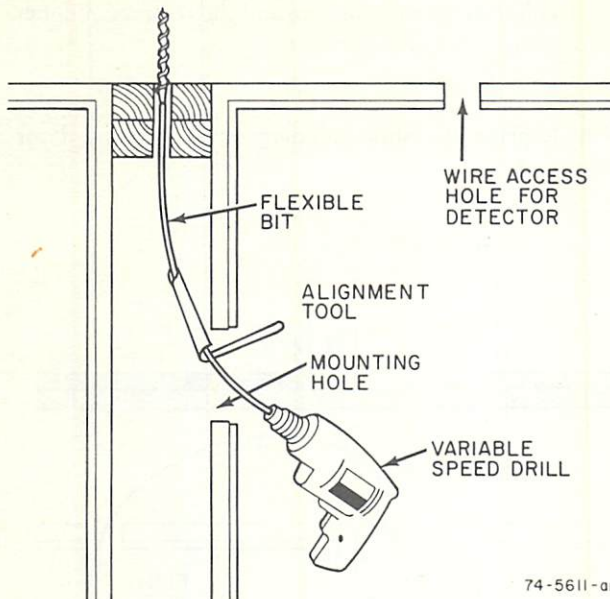
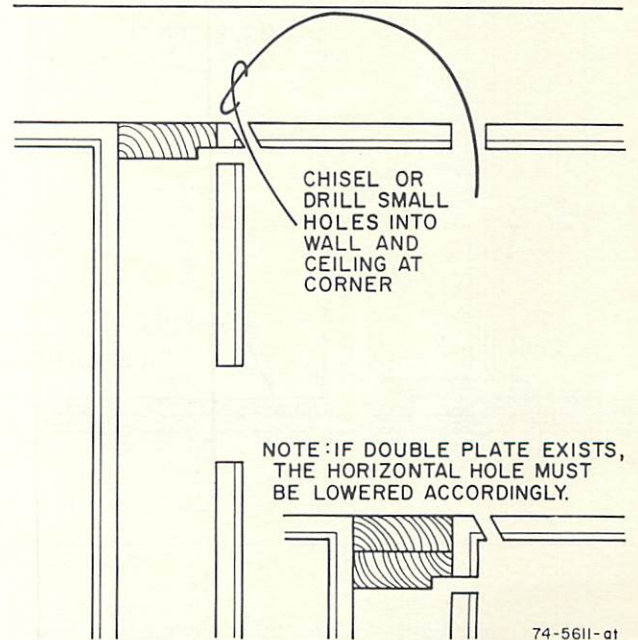

Fig. 44—Gaining Access to Attic From Below—Using Flexible Bit.
Fig. 46—Alternate Method for Wiring Ceiling Mounted Device.
2. Direct the flexible bit straight up from the mounting hole in the wall and drill through the double plate (Fig. 44).
3. Cut small holes into the wall and ceiling spaces (Fig. 46).
4. Use two fish wires as shown in Fig. 46 to pull the signal wires through the ceiling and a fish chain in the wall.
If the wire is to be run from an outside wall, or from an interior first floor wall with a second floor wall directly above it, proceed as indicated below. However, before using this method check ceiling wiring methods described previously (Fig. 44 and Fig. 46).